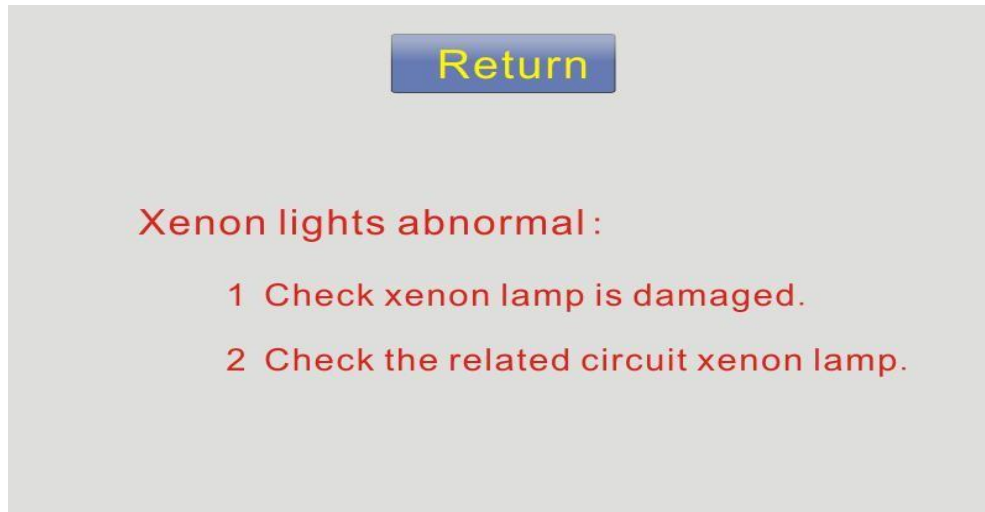

Fig.08
4. After normally standby, power is ready for normally conveying electricity to the xenon lamp. According to the needs ,the interface can be switched: Version View (see Fig. 08) ; parameter adjustment (switch to the programming interface see Fig. 09) ; related equipment company (switch to another interface see Fig. 10) .